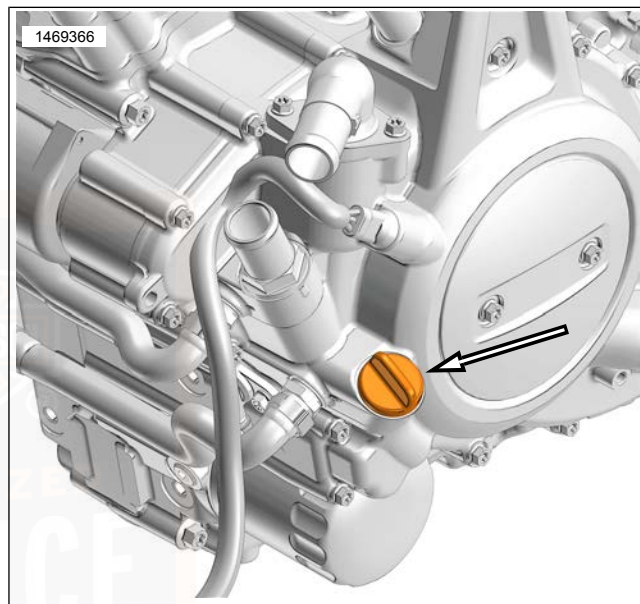

Figure 55. Engine Oil Filler Plug/Dipstick
- a. See Figure 55. Remove filler plug/dipstick.